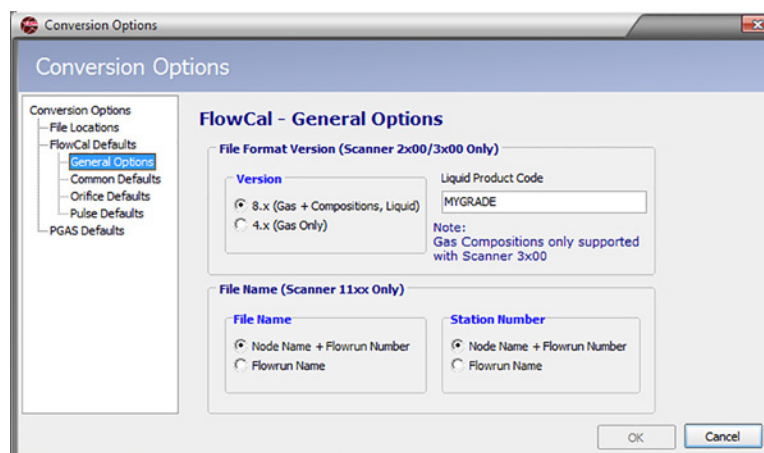

Figure 5.2—Flow-Cal General Options dialog
- File Format [Scanner 2x00/3x00 only] (Figure 5.2)—Select **Flow-Cal Version** appropriate for the flowrun. If the flowrun is a liquid run, enter the Flow-Cal product code in the “Liquid Product Code” field. If no product code is entered, the code will default to “MYGRADE.”
- File Naming [Scanner 11xx only] (Figure 5.2)—Select **Node Name + Flowrun Number** or **Flowrun Name** in the “File Name” field and/or the “Station Number” field